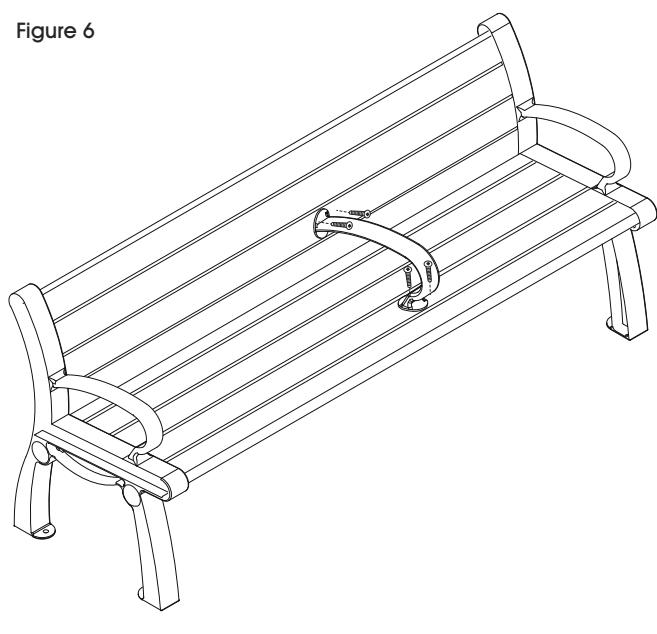

Figure 6
9. Using a drill with a Phillips head bit, attach the center armrest using four 1¼" screws. (See Figure 6)